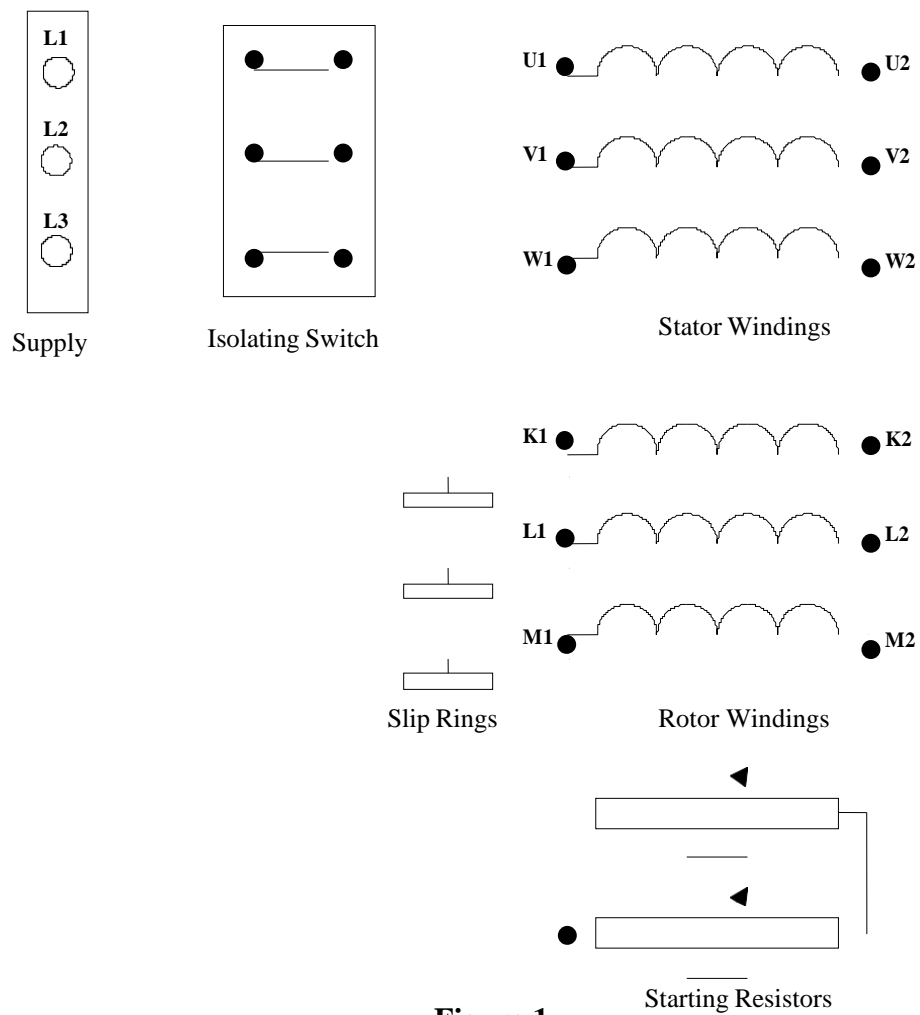

Figure 1.
1. Figure 1 represents the incomplete circuit diagram of a three phase slip ring induction motor and it's supply:-